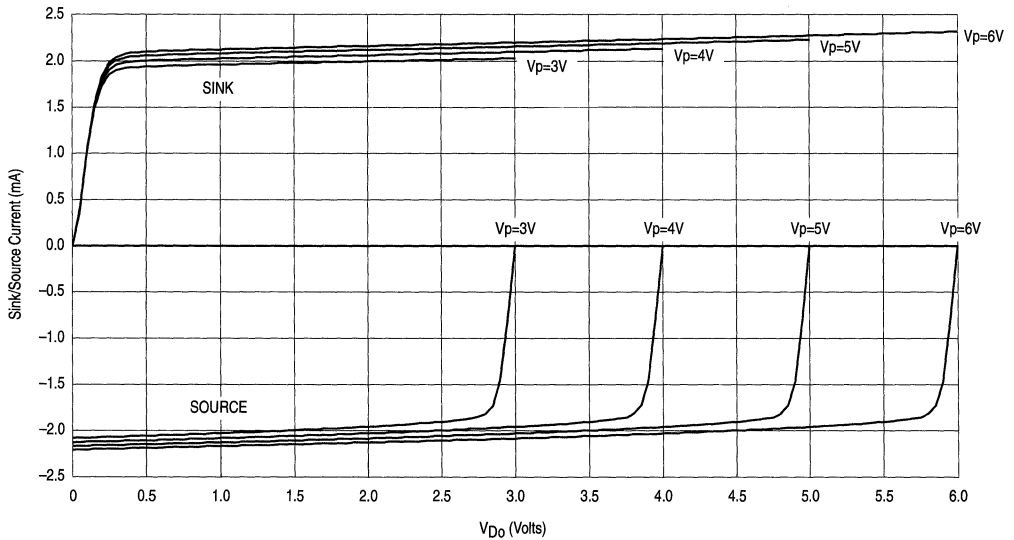

Figure 9. Typical MC12302 Charge Pump Sink and Source Current versus  $V_{DO}$
6. Source current flows out of the pin and sink current flows into the pin, typical charge pump sink and source curves are found in Figure 9.